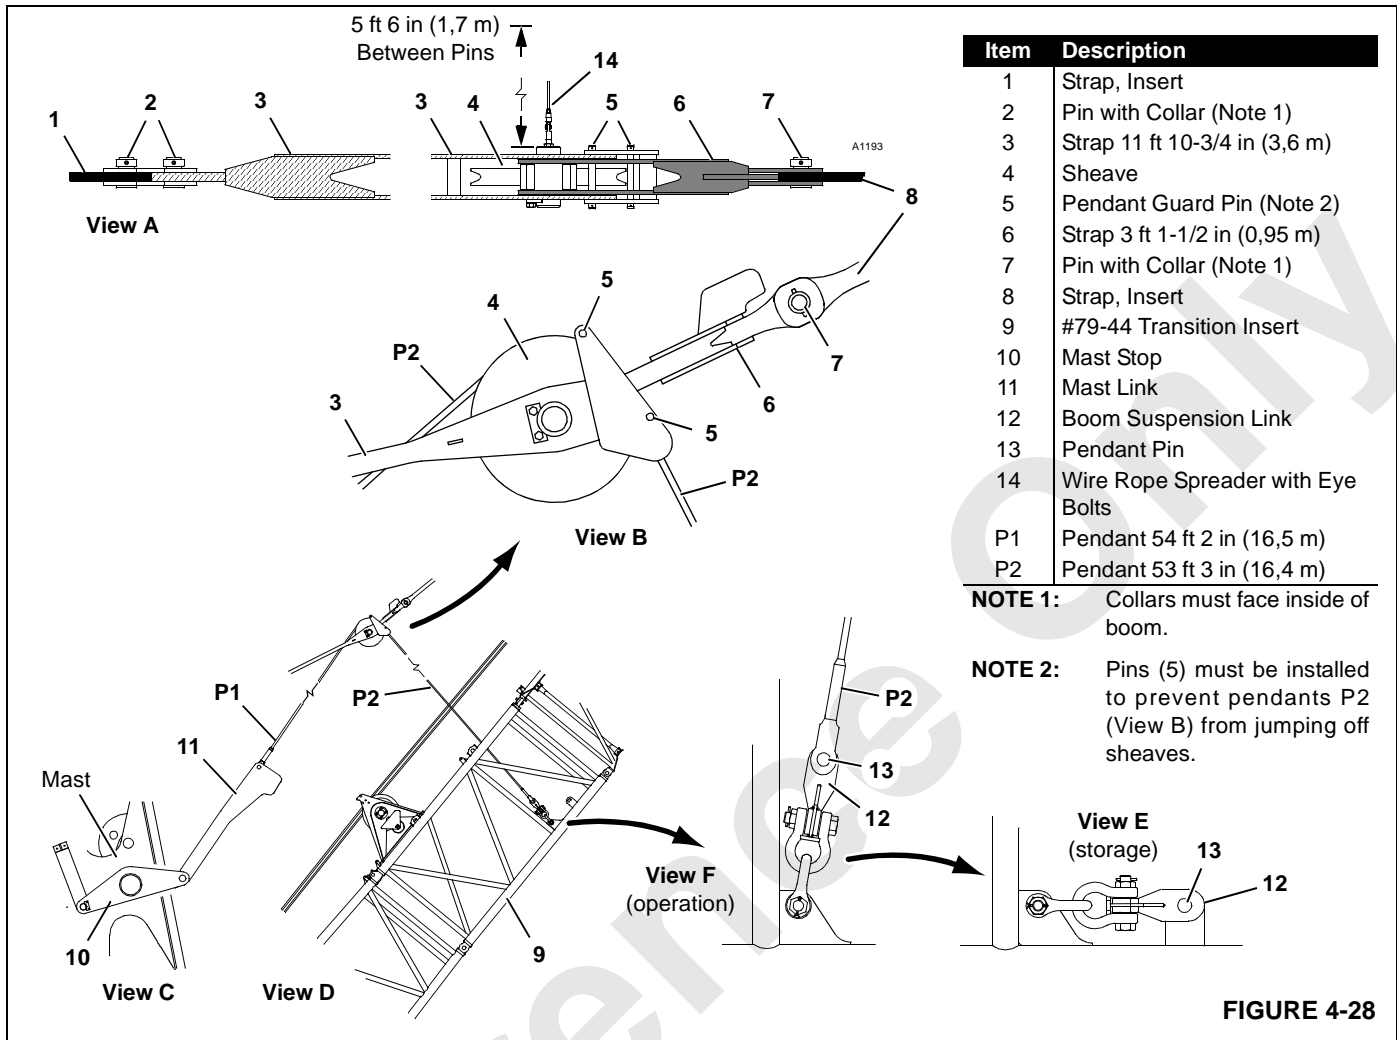

FIGURE 4-28
**NOTE:** See Figure 4-28, View A, for strap connections on booms 320 ft (98 m) – 400 ft (122 m) with intermediate suspension.
See Figure 4-28 and #79-44 Boom Rigging Assembly Drawing for following procedure.